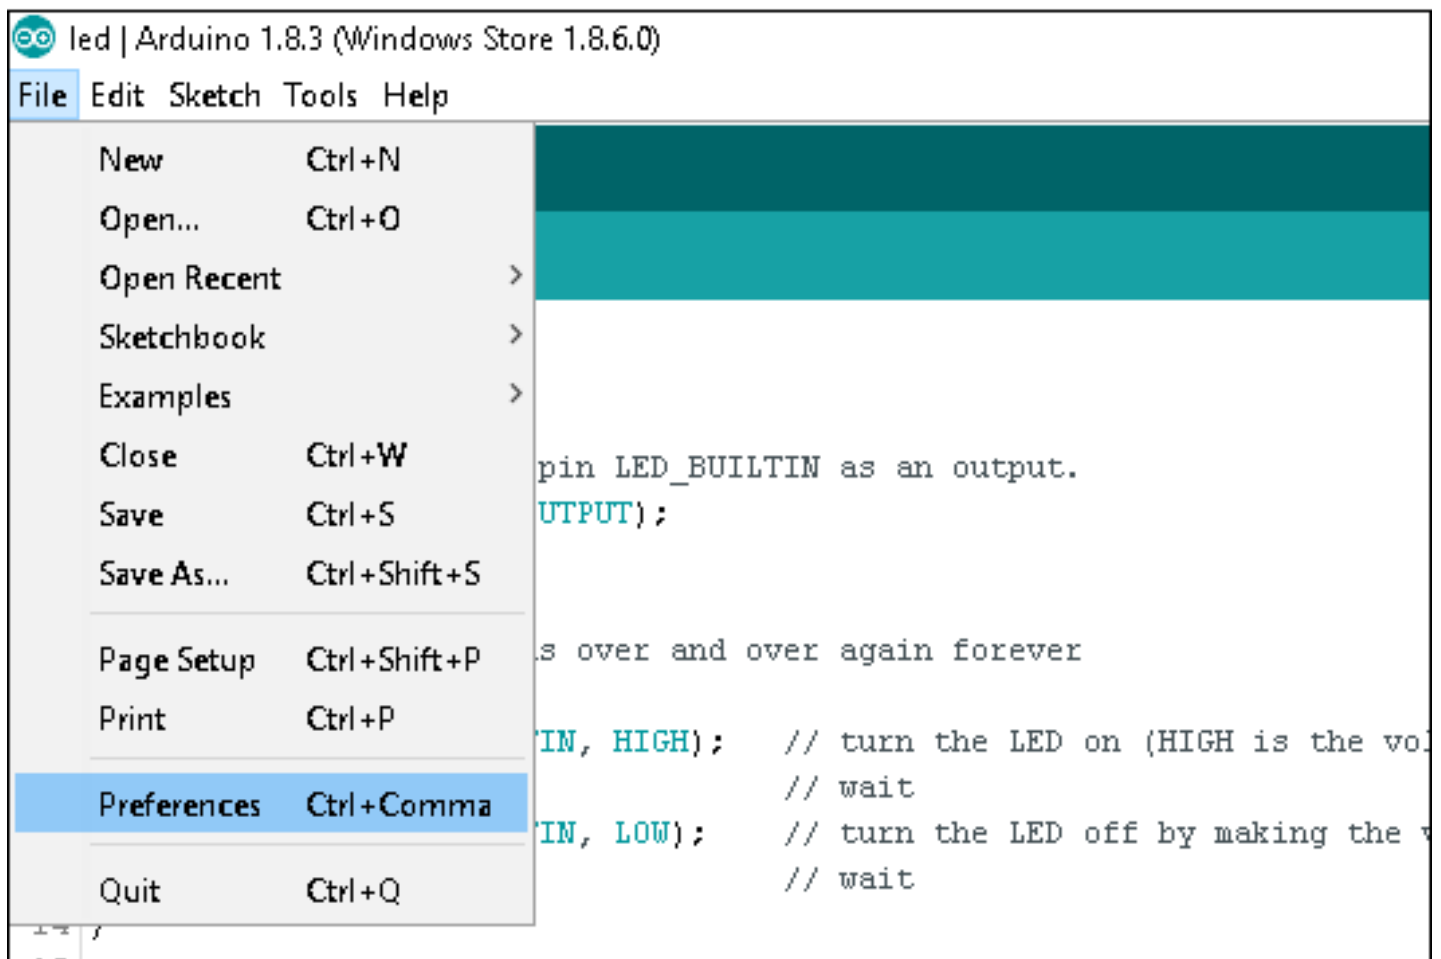

Figure 2-3 Arduino IDE, Preferences Menu
- 2) After the Arduino IDE is installed, launch it and click the menu File / Preferences, as shown in Figure 2-3: